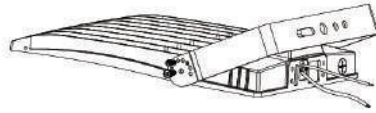

Figure 11
Step 1: First install two big screws. (Figure 11)